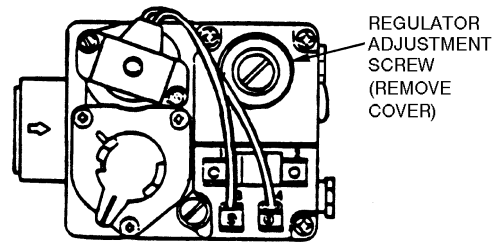

Fig. 63 — Gas Valve
6. Remove screw cap covering regulator adjustment screw (see Fig. 63).